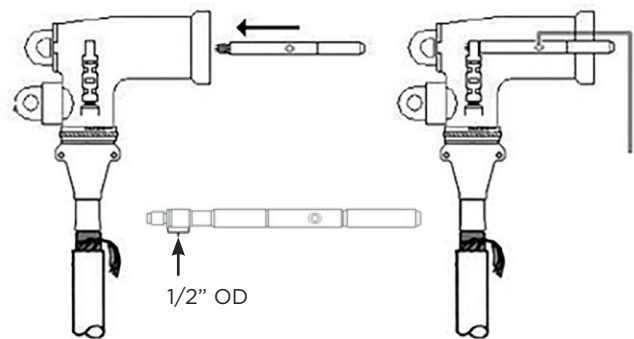

Fig. 9 - Assemble & torque probe with wrench
- C. Hand thread the probe into the lug to avoid cross threading. Once the probe has been properly started, use the supplied wrench to fully tighten probe into the lug. The probe will be fully mated when the wrench permanently deforms at approximately 110 to 120 inch-/lbs of torqueforce. See Figure 9
NOTE: When using a premium Sure-Break™ kit, with insulated probe to prevent partial vacuum induced flashovers, a thin layer of supplied lubricant applied to the 1/2" probe outside diameter in the area indicated in Figure 9 will aid in probe installation.